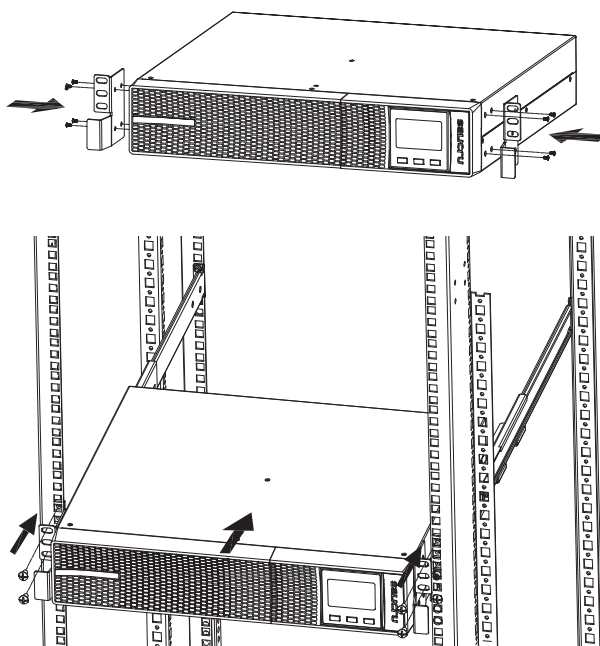
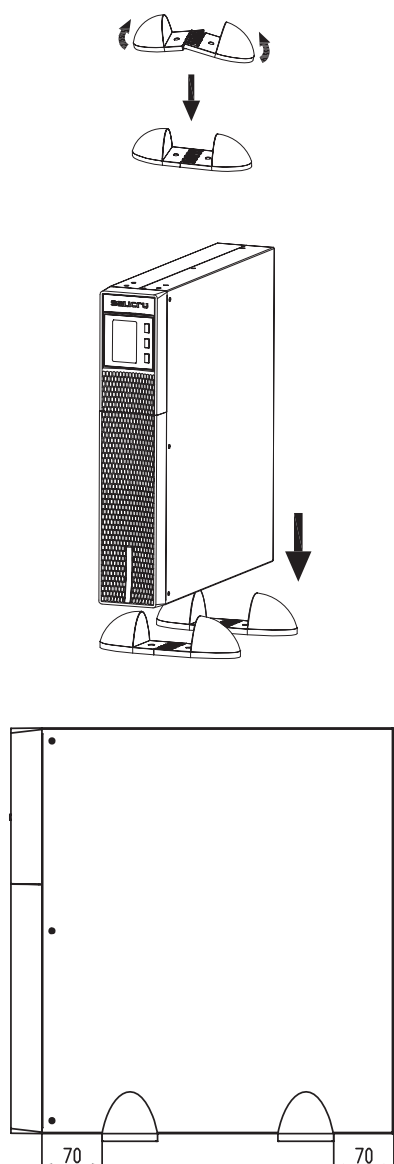
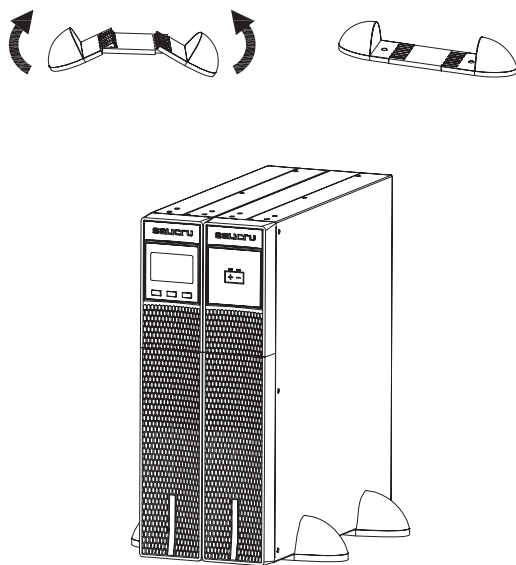

Fig. 4. Rack-type mounting in a 19" cabinet.
Fig. 6. Vertical tower-type mounting.
Fig. 8. Vertically mounted tower-type model with backup extension (battery module).
- Fig. 4..Fig. 8 show, by way of example, illustrations of a device with or without battery module. These illustrations provide help and guidance on the steps to follow, but the instructions are not intended to refer to a single model, although, in practice, the actions to be carried out are always the same for all of them.
- Proceed as follows (see Fig. 4):
- Place the UPS upright between the two bases at a distance of 70 mm from each end (see Fig. 6).
- Place the UPS and battery module upright between the two bases (see Fig. 8) and at a distance of 70 mm from each end, as shown in Fig. 6.